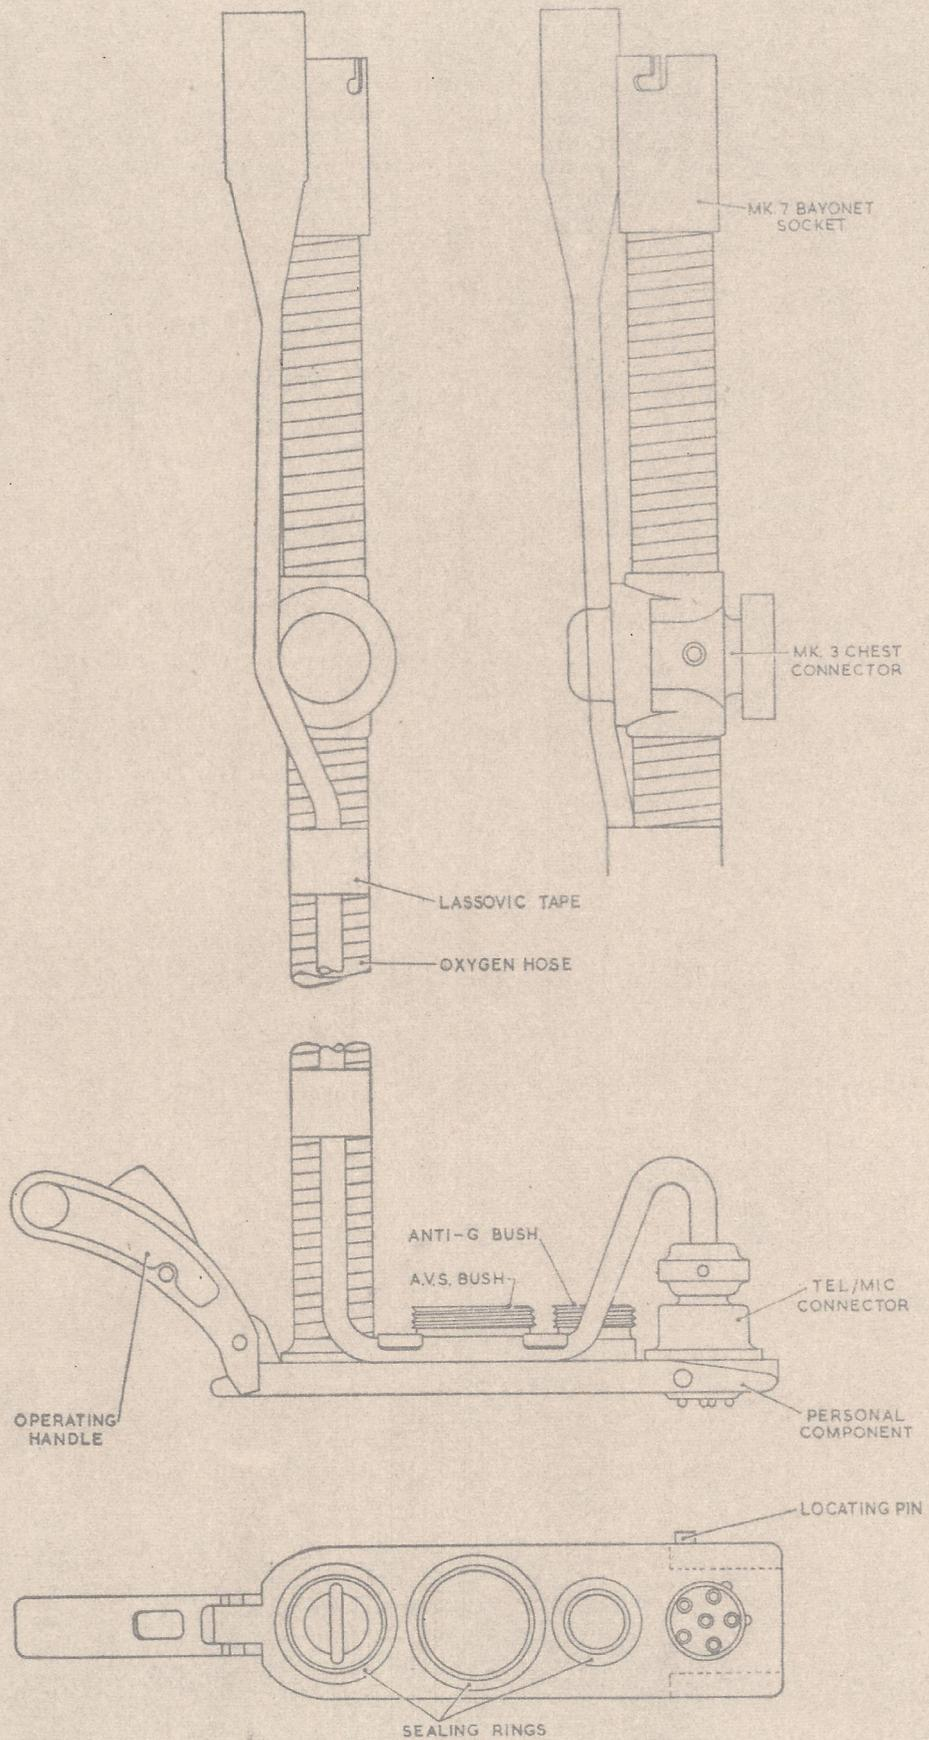

Fig. 3. Details of personal component (high altitude)
19. The high altitude type of P.E.C. is basically similar to the one previously described; the aircraft and seat portions are similar but the personal component (*fig. 3*) incorporates a Mk. 3 chest connector in the oxygen hose. This is connected to the pressure jerkin for the purpose of applying pressure to the seat occupant's trunk and also acting as an oxygen reservoir.